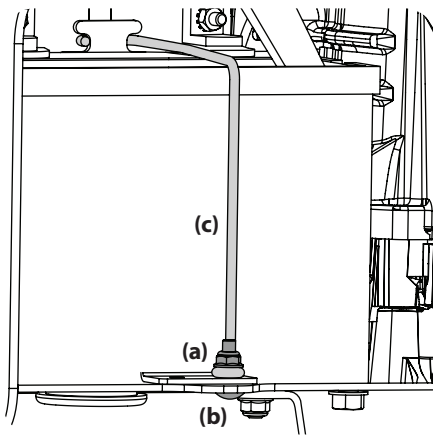

Figure 11
- Remove the flange lock nut (a) and carriage screw (b) holding the battery hold-down bracket (c) in place. See Figure 11.